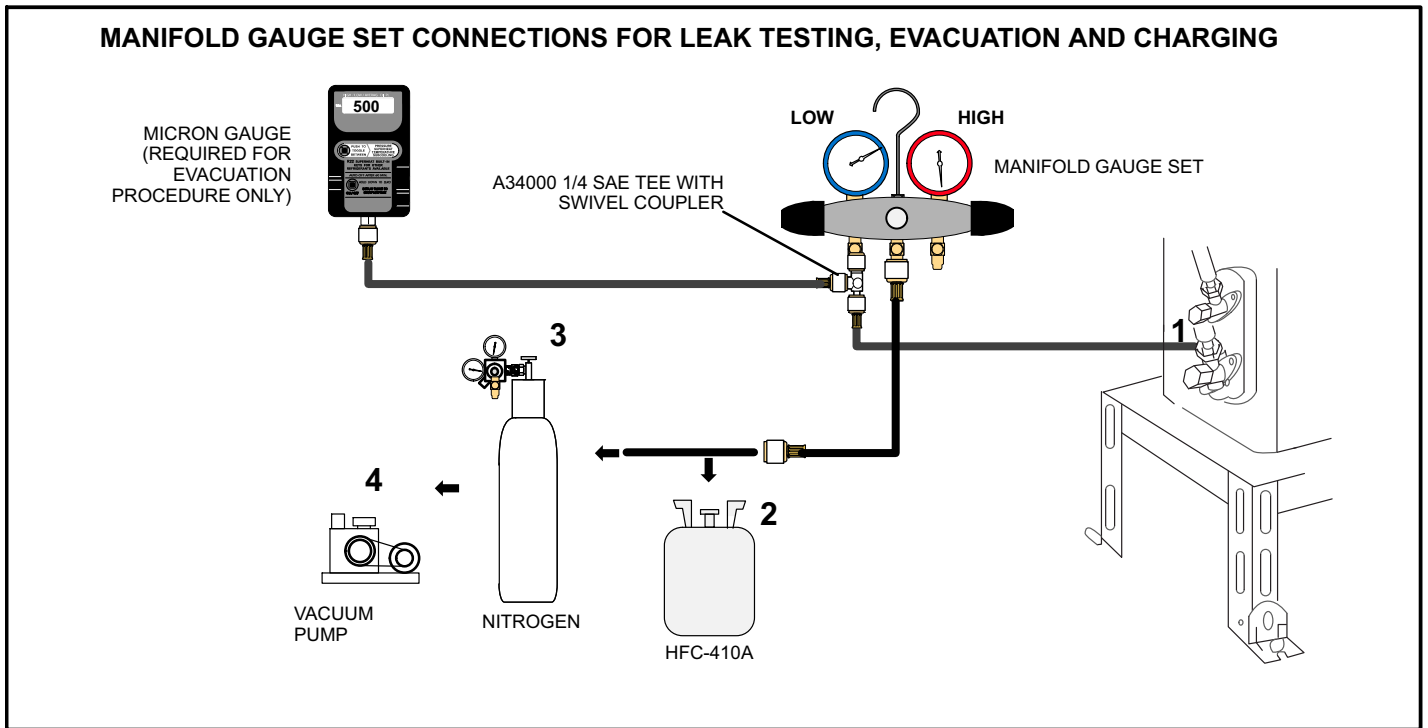

FIGURE 39
1. Connect the manifold gauge set and dry nitrogen gas cylinder to the large line service port as illustrated in figure 39.
1. Connect the gauge set, micron gauge and vacuum pump as shown in figure 39.
2. Verify that the manifold gauge set is connected as illustrated in figure 39.